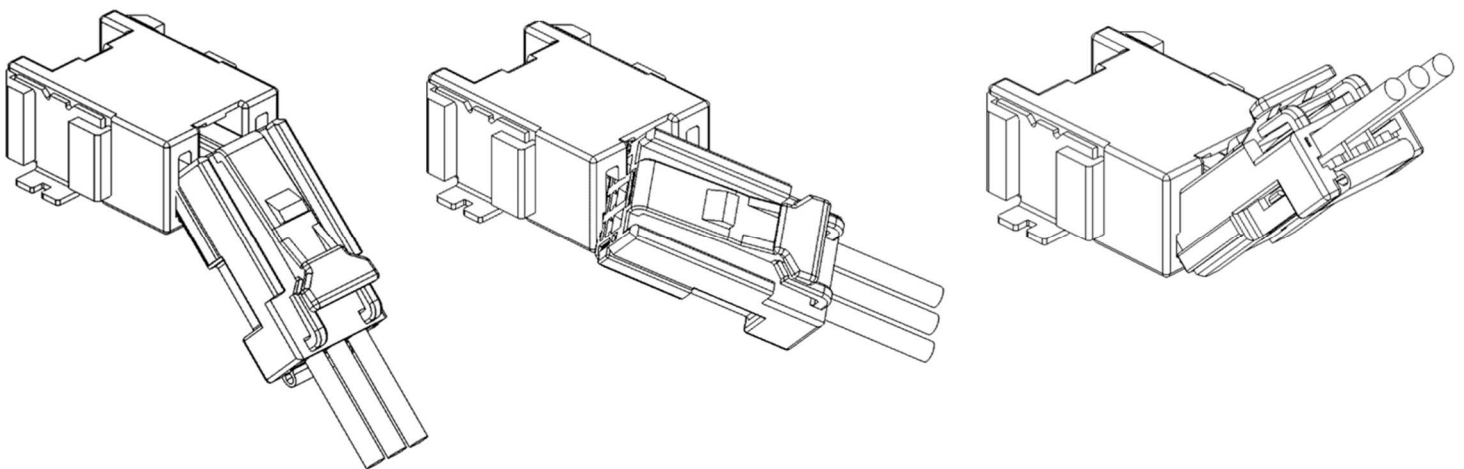

Fig 51. Mating orientations (not advisable)
- ① Only mate the connector in the direction instructed above. Do not forcefully mate in any orientation shown in Fig.51.